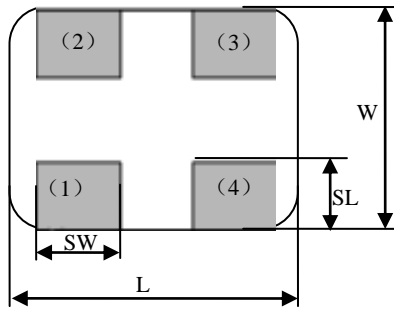

Fig.4-1
- 1) Dimensions: See Fig.4-1 and Table 4-1.